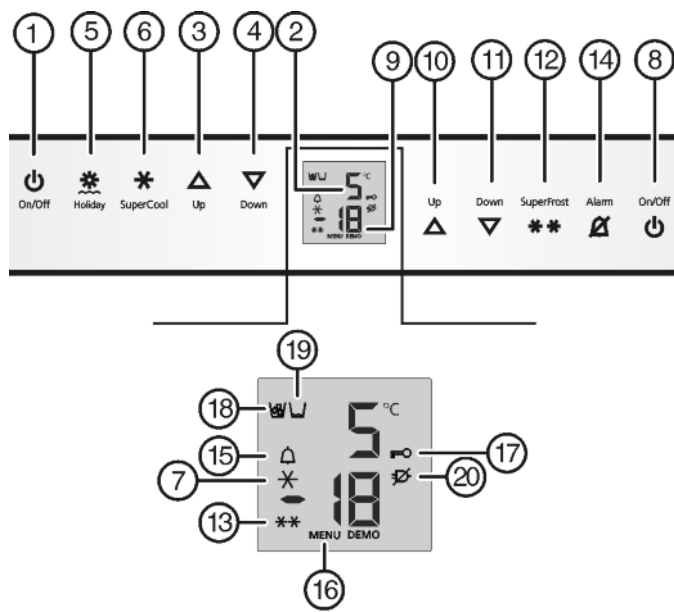

Fig. 2
- ▶ Press On/Off button, freezer compartment *Fig. 2 (8)*.
- ▶ Press On/Off button, refrigerator compartment *Fig. 2 (1)*.
- ▷ The fridge and BioFresh section are on: Fridge temperature display *Fig. 2 (2)* is on. When you open the door the interior light comes on.
- ▶ To activate the setting mode: press SuperFrost button *Fig. 2 (12)* for about 5 s.
- ▷ The menu symbol *Fig. 2 (16)* shines.
- ▶ Briefly press the SuperFrost button *Fig. 2 (12)* to confirm.
- ▶ To activate the child lock, briefly press the SuperFrost button *Fig. 2 (12)*.
- ▷ The child lock symbol *Fig. 2 (17)* shines. **c** flashes in the display.
- ▶ To deactivate the child lock, briefly press the SuperFrost button *Fig. 2 (12)*.
- ▷ The child lock symbol *Fig. 2 (17)* goes out. **c** flashes in the display.
- ▶ To deactivate the set-up mode: press On/Off button, freezer compartment *Fig. 2 (8)*.
- ▶ Press alarm button *Fig. 2 (14)*.
The temperature display and the alarm symbol *Fig. 2 (15)* flash at the same time.
The audible alarm is automatically silenced, the alarm symbol *Fig. 2 (15)* goes out and the temperature display stops flashing when the temperature is sufficiently cold again.